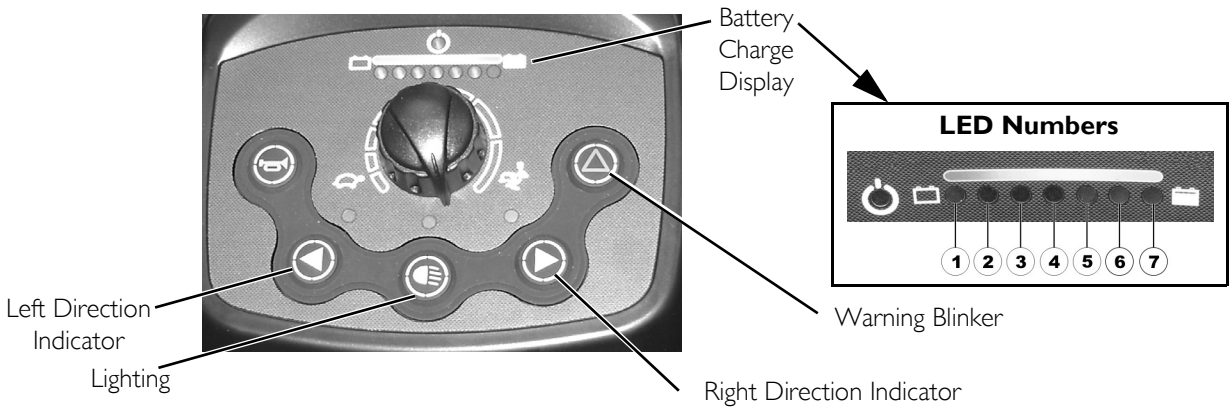

FIGURE 7.3 Activating/Deactivating the Audible Signals
NOTE: For this procedure, refer to FIGURE 7.3.
2. Press and hold the buttons on the control panel in the keystroke combination shown in the table in FIGURE 7.3.